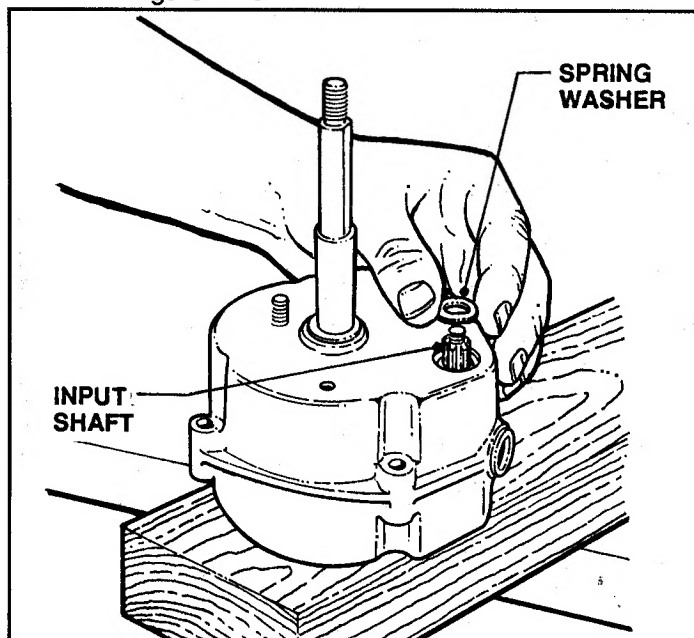

FIGURE 4.20
18. Place spring washer on input shaft. See Figure 4.20.